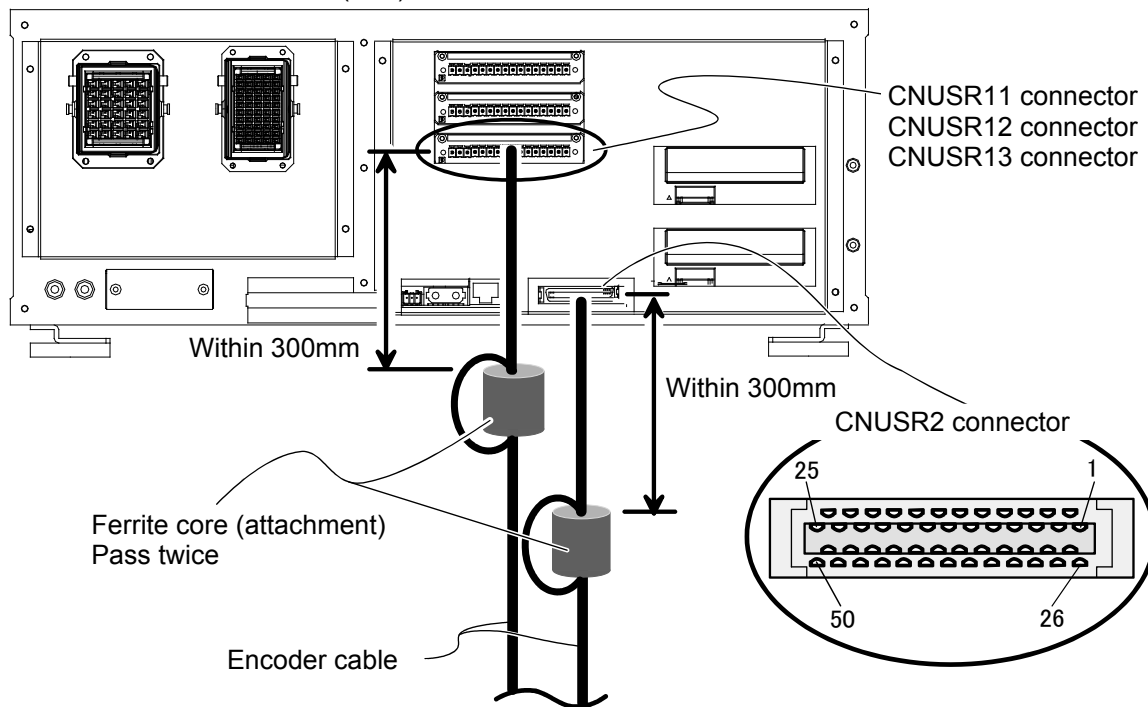

Figure 10-6 Installation of encoder cable (CR750-D series)
*CR750-D series: "Figure 10-6 Installation of encoder cable (CR750-D series) "